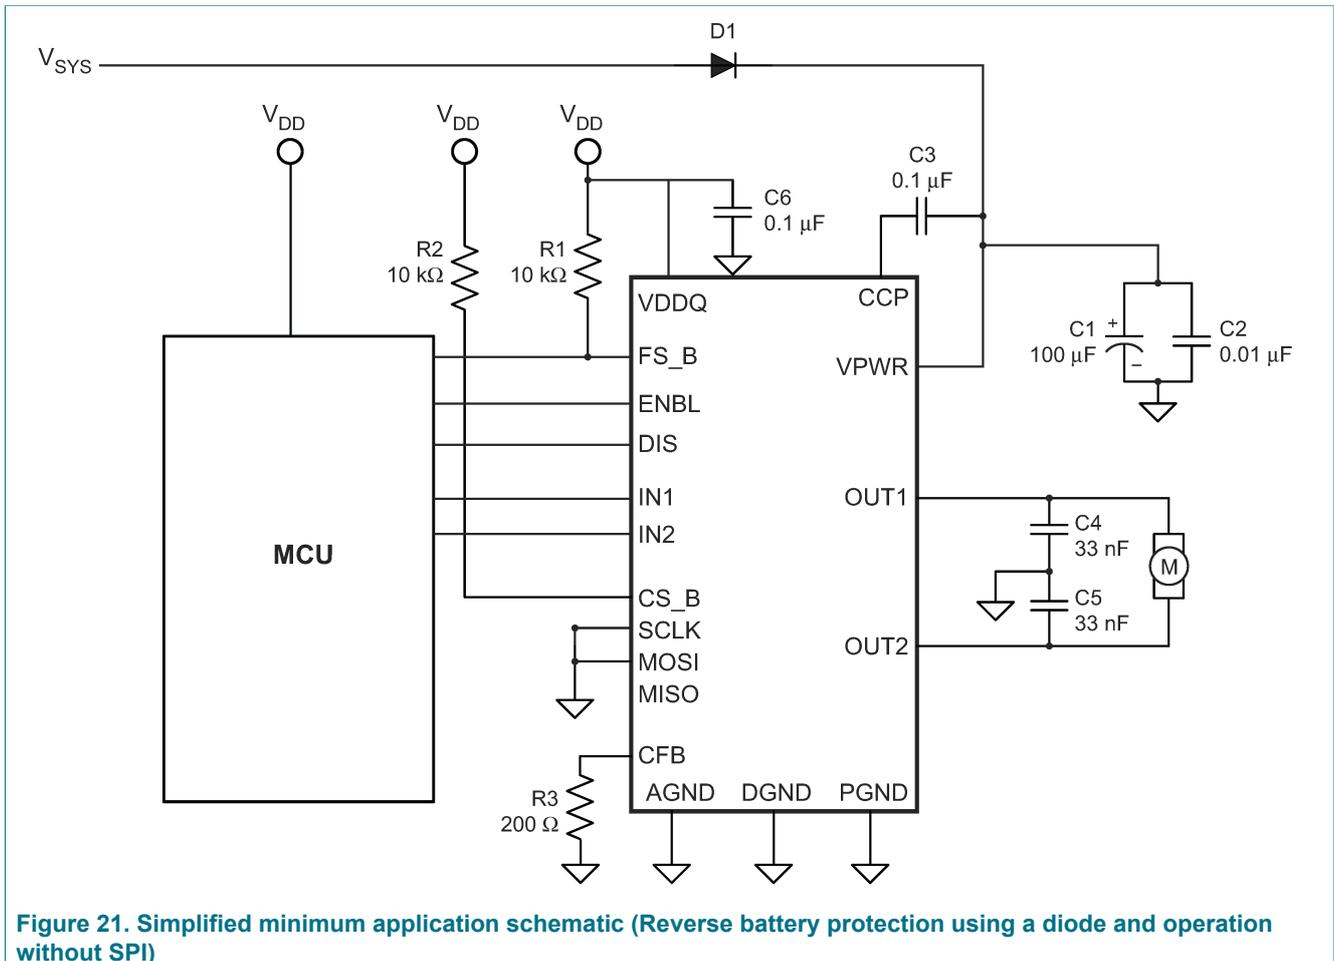
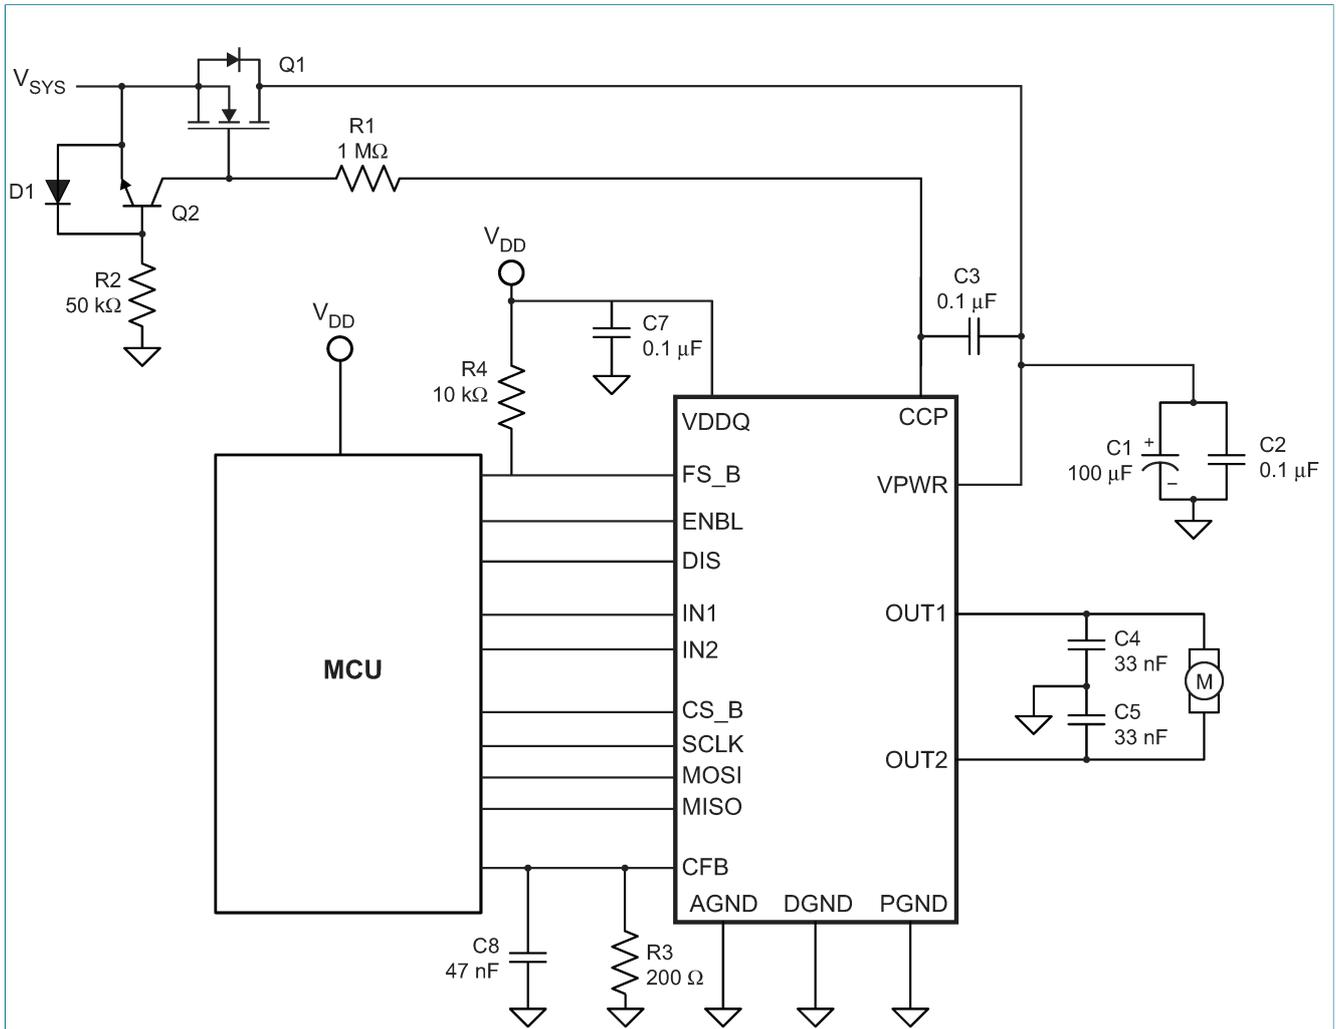

Figure 21. Simplified minimum application schematic (Reverse battery protection using a diode and operation without SPI)
Figure 22. Simplified typical application schematic (Reverse battery protection with an external inverted N-channel MOSFET and operation with SPI)
The 33HB2001 is a programmable and configurable H-Bridge, power integrated circuit (IC) designed to drive DC motors or bi-directional solenoid controlled actuators, such as throttle control or exhaust gas recirculation actuators, with continuous average current of 3.0 A and peaks over 10.0 A. Figure 21 shows a typical simplified minimum application schematic without SPI interface to MCU and reverse battery protection through a diode. Figure 22 shows a typical simplified application diagram with reverse battery protection using an external N-channel FET driven by the CCP pin. This is useful for low battery voltage applications where diode drops could be significant. See Section 8.3.1 "Reverse battery" for details on reverse battery protection.